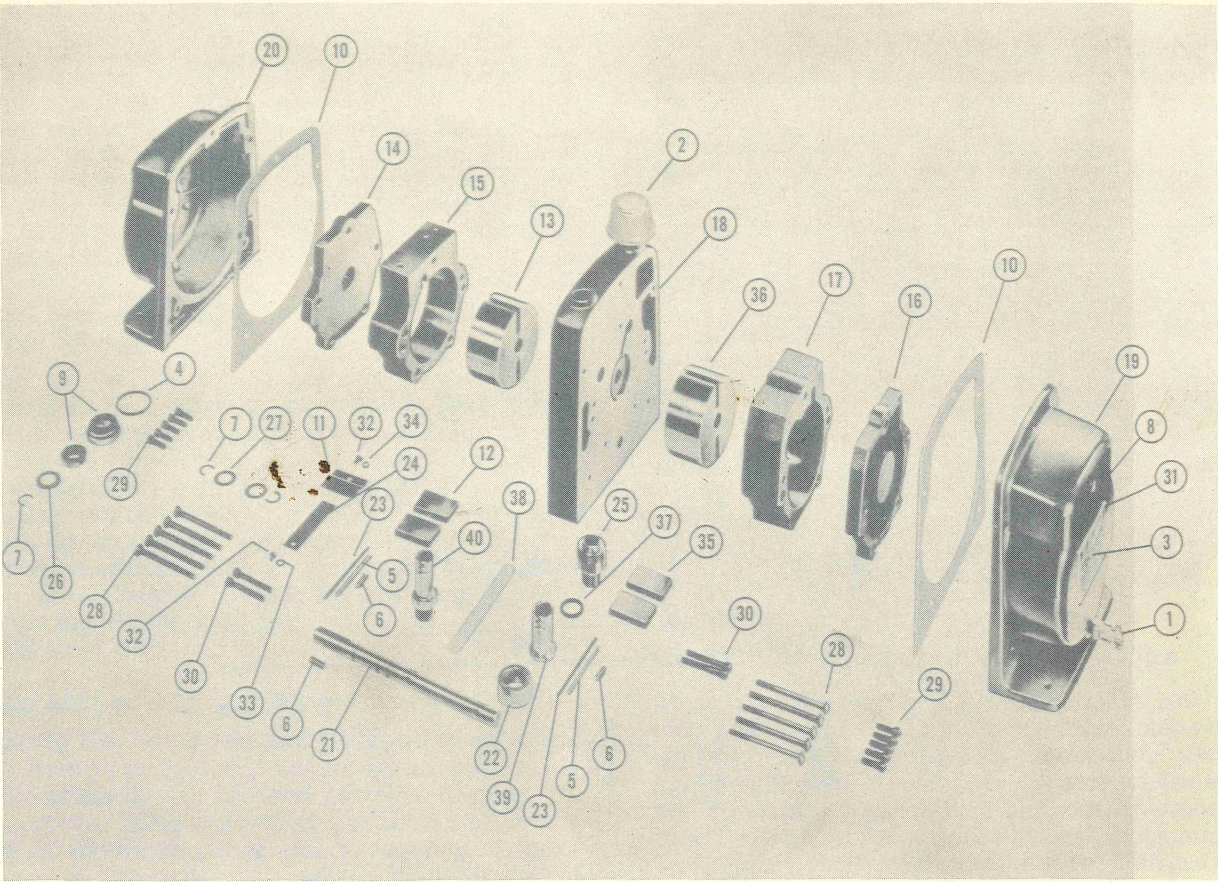
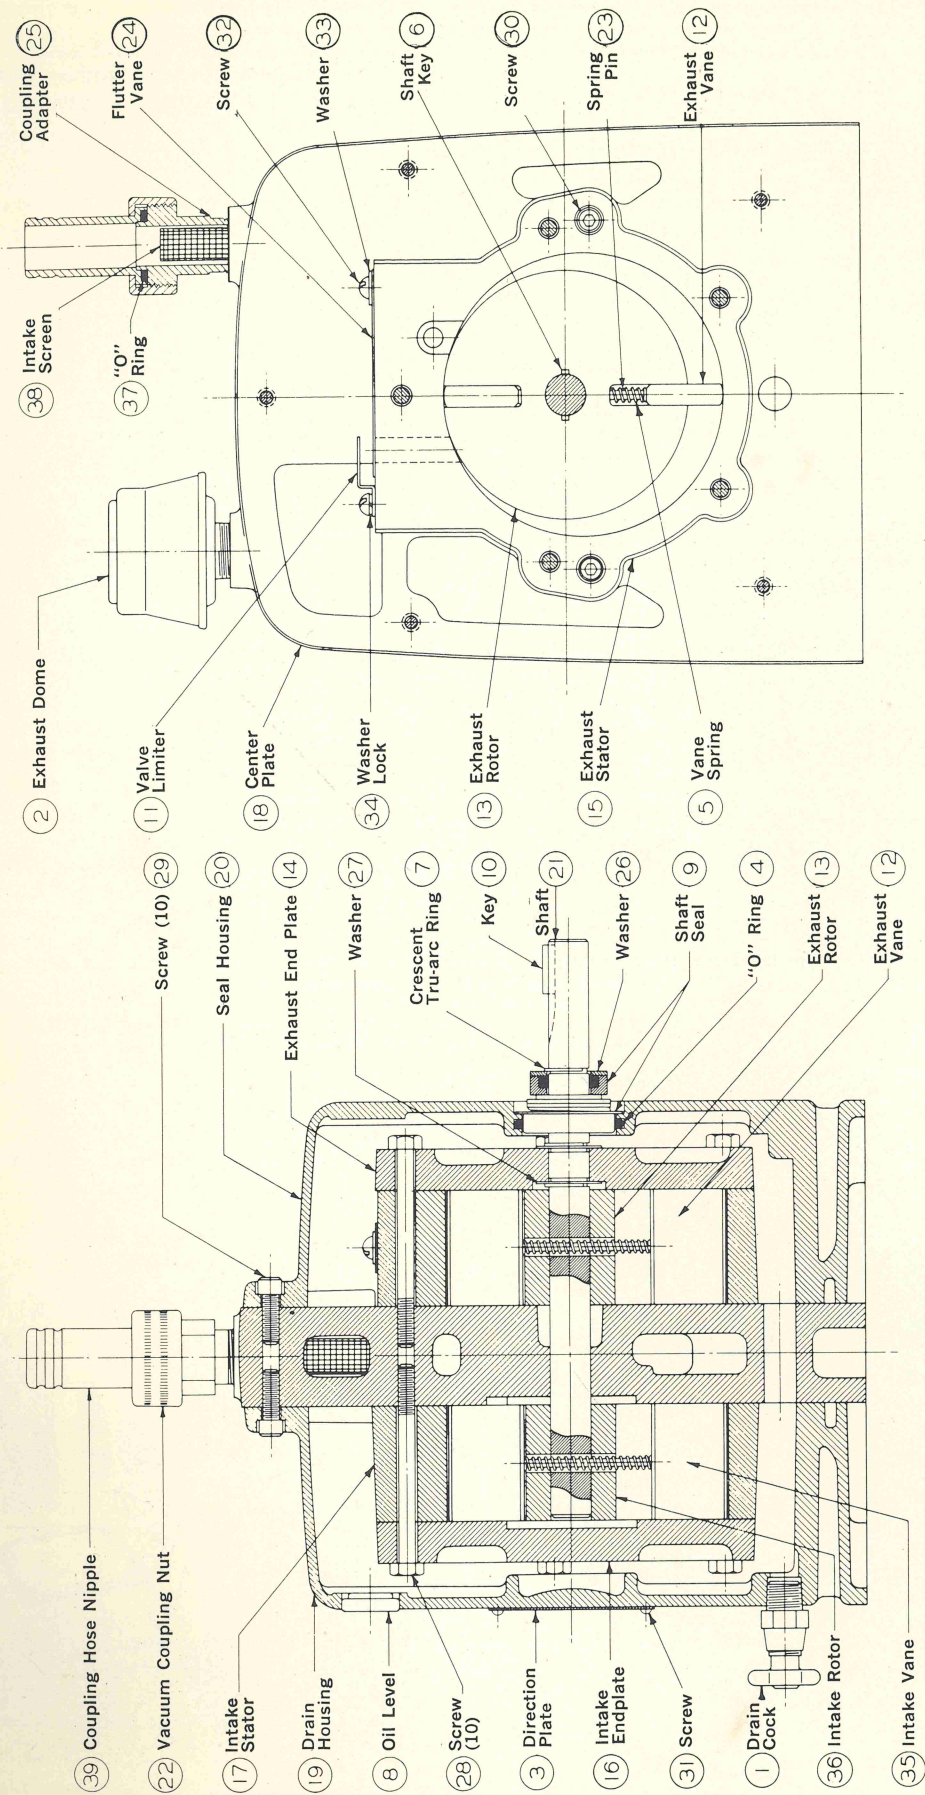

Fig. 6—View of the Hyvac 2, 4, 6, 7, and 14 Pumps disassembled.
Fig. 8—Sectional view of the Hyvac 2, 4, 6, 7, and 14 Pumps
7.4 Shaft Seal Replacement: The seal on the pump shaft, symbol 21 in Fig. 8, consists of a "Truarc" ring, (7), a thrust washer (26), a shaft seal (9), and an "O" ring, (4). Remove the "Truarc" ring, the thrust washer, the shaft seal, and finally the "O" ring, in this order.
7.5 Repairs: Fig. 8 shows cross sectional views of the Hyvac Pump. Figs. 6 and 7 show a disassembled view of the pump and all its components. Section 7.6 lists the part number for each component of the pump. When ordering replacement parts, please give the exact part number. For repairs to the pump other than the replacement of the shaft seal, it is strongly recommended that the pump be returned to the factory, especially when adequate shop facilities are not available.
herein listed are keyed to the identifying symbols used in Figs. 6, 7, and 8. For prices of the replacement parts, consult Section 10.